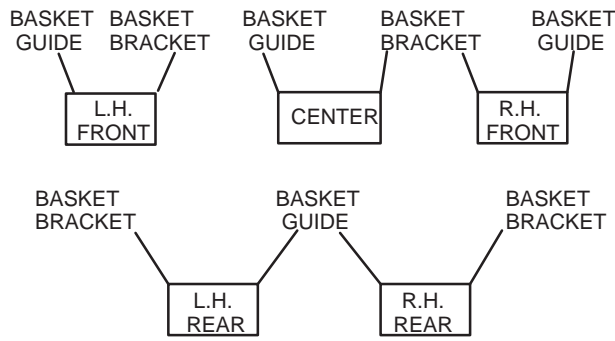
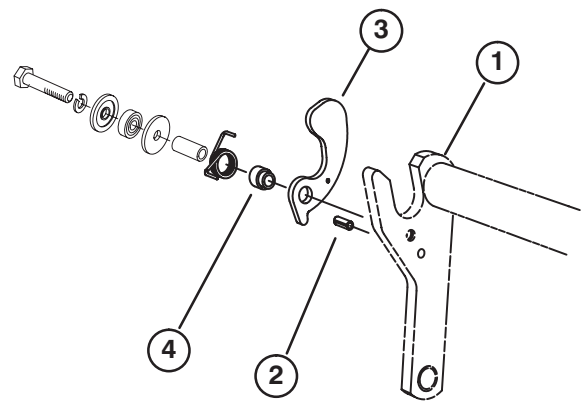
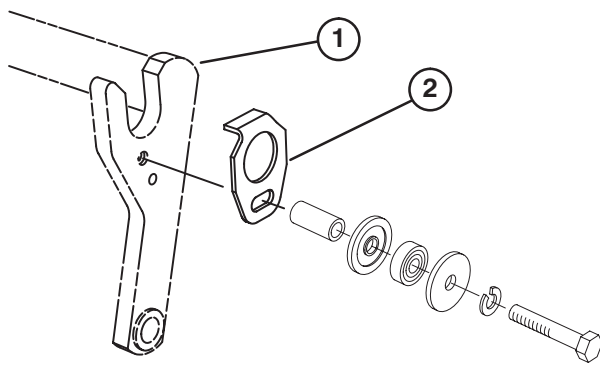
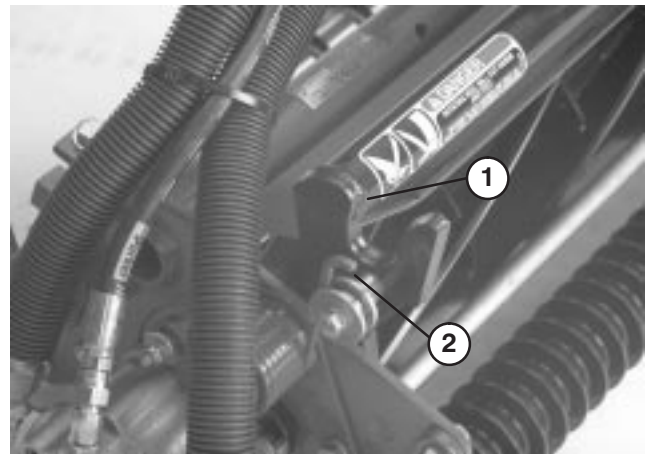

Figure 5
Figure 7
Figure 6
Figure 8
2. If baskets will be installed, use chart below (Fig. 5) to determine locations at which basket guides or basket brackets must be mounted to cutting unit carrier frames. If baskets are not to be installed, proceed to step 7.
3. Remove hardware securing Turf compensation kit to each end of carrier frame (Fig. 6 and 7) and reuse when installing basket guides and basket brackets (Cutting unit models 03506 and 03509 only).
4. Mount a basket guide (Fig. 6) to the appropriate side of each cutting unit carrier frame (see Figure 7) with a capscrew (5/16 x 1-3/4 in.), flat washer, and lock washer or fasteners previously removed, as shown in Figure 6.
6. On the same side of carrier frame as roll pin is installed, mount a basket bracket with a capscrew (5/16 x 1-3/4 in.), lock washer, flat washer, torsion spring, basket collar, or fasteners previously removed, as shown in Figure 7. Torsion springs are different for left-hand and right-hand sides of carrier frames. There are 2 left-hand and 3 right-hand springs. Longer leg of spring is to be positioned forward as shown in Figure 8.
5. Install a roll pin (Fig. 7) into hole in appropriate side of each cutting unit carrier frame (Fig. 5).